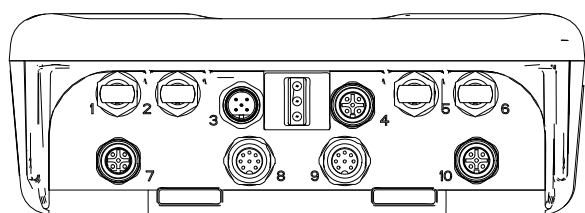

Figure 2 ADCM Connectors
Order a power accessory cable (C) from Table 1. Connect the cable to Port 3 on the bottom of the control module (see Fig. 2). Connect the other end to the power barrier (see Fig. 1). Connect other cables as described in Table 2.